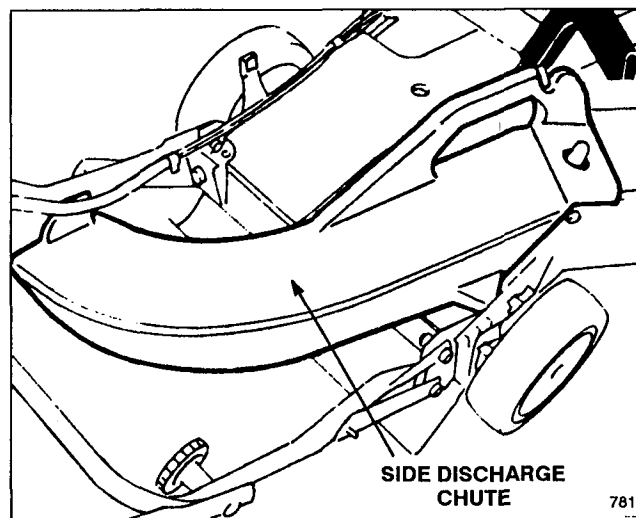

Figure 31
2. Side Discharge Kit, Model 59168—(requires Rear Bagging Kit, Model 59174). Installs in seconds. Rear mounted in place of grass bag or discharge tunnel plug. Disperses clippings while trimming on both sides (Fig. 31).